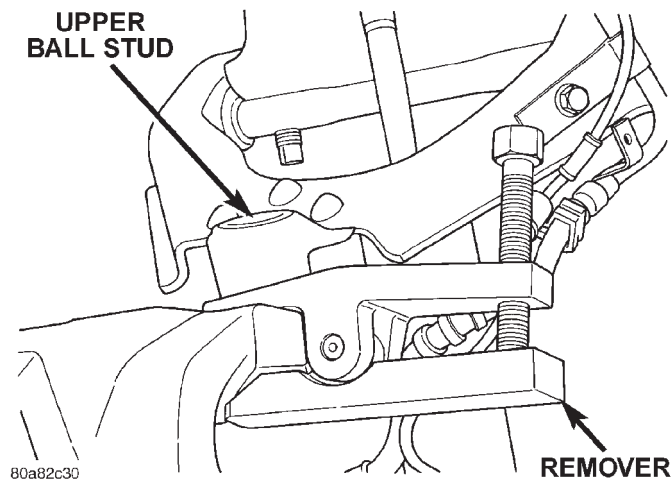

Fig. 5 Upper Ball Joint
(7) Remove the upper ball joint cotter pin and nut. Separate the ball joint from the knuckle with Remover MB-991113 (Fig. 5).